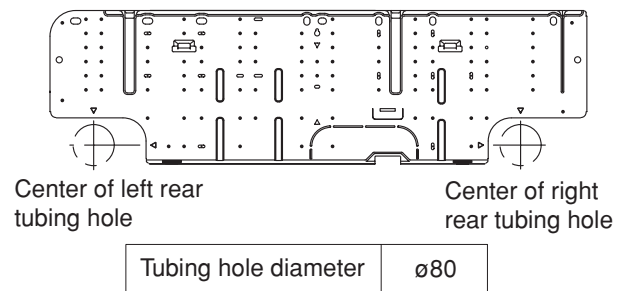
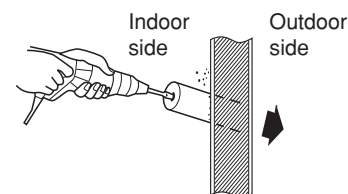

Fig. 3-15
Fig. 3-16
- (1) Remove the rear panel from the indoor unit and place it on the wall at the location selected. Fix the rear panel and hook the unit onto it temporarily. Make sure the unit is horizontal using a carpenter's level or tape measure to measure down from the ceiling.
- (2) Determine which notch of the rear panel should be used. (Fig. 3-15)
- (3) Before drilling a hole, check that there are no studs or pipes behind the determined location. The above precautions are also applicable if tubing goes through the wall in any other location.
- (4) Using a sabre saw, key hole saw or hole-cutting drill attachment, make a hole (dia. 80 mm) in the wall. (Fig. 3-16)